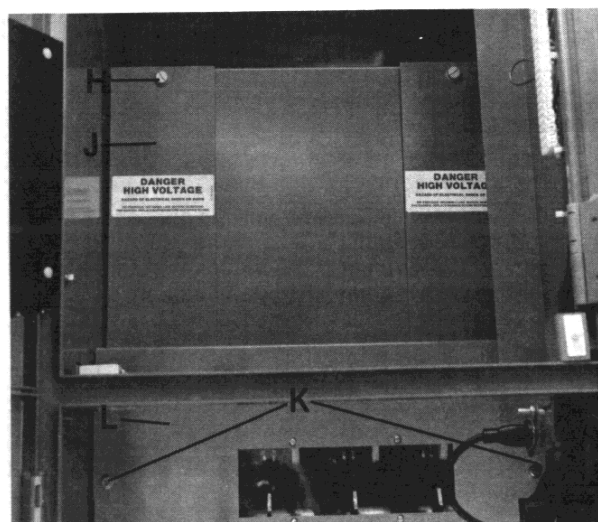

FIGURE 4
8. Remove screw (H) and bus access barrier (J) (See Figure 4).
9. Loosen bolts (K) and remove isolation switch barrier (L) (See Figure 4).